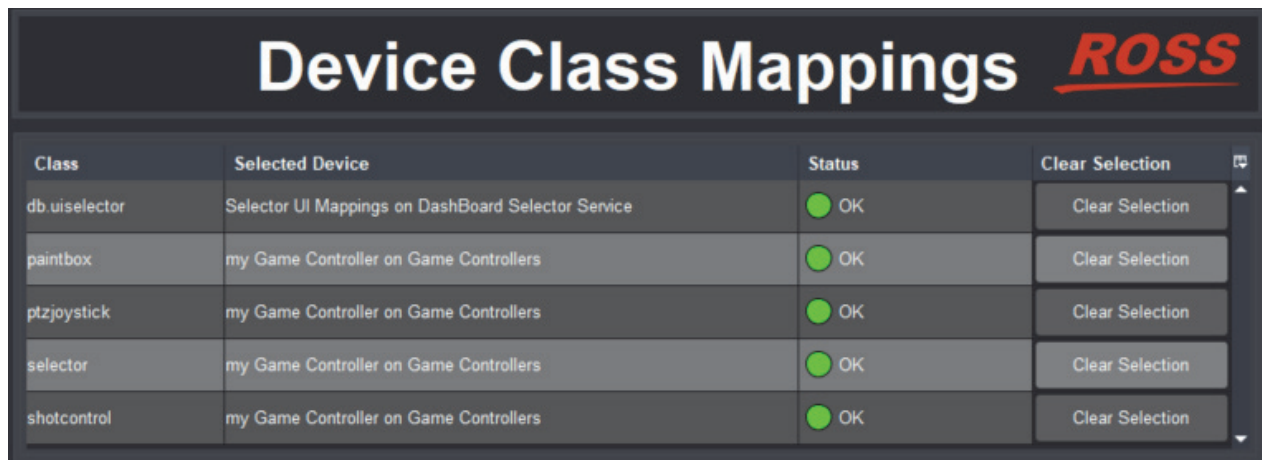

Figure 36 - Device Class Mappings for a USB controller (shown populated with mappings)
1. In the **Component Tree**, within the **DashBoard Services** node, double-tap **Device Class Mappings**. The **Device Class Mappings** interface appears (Figure 36).